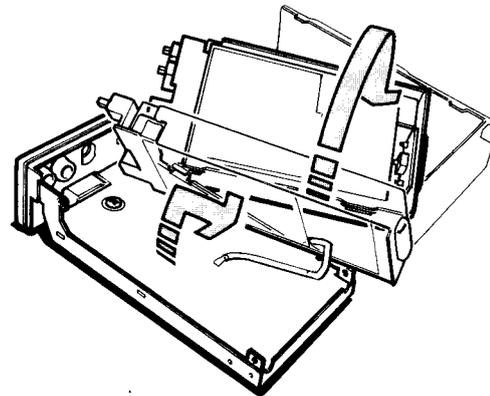

Fig. 5-1-7
- Remove the 2 knobs on the top panel (VOLUME and SQUELCH) and push IN the [LIGHT] and [HIGH/LOW] SWITCHES. Remove the 4 screws on the sides of the chassis, and open the chassis as shown in Fig. 5-1-7.